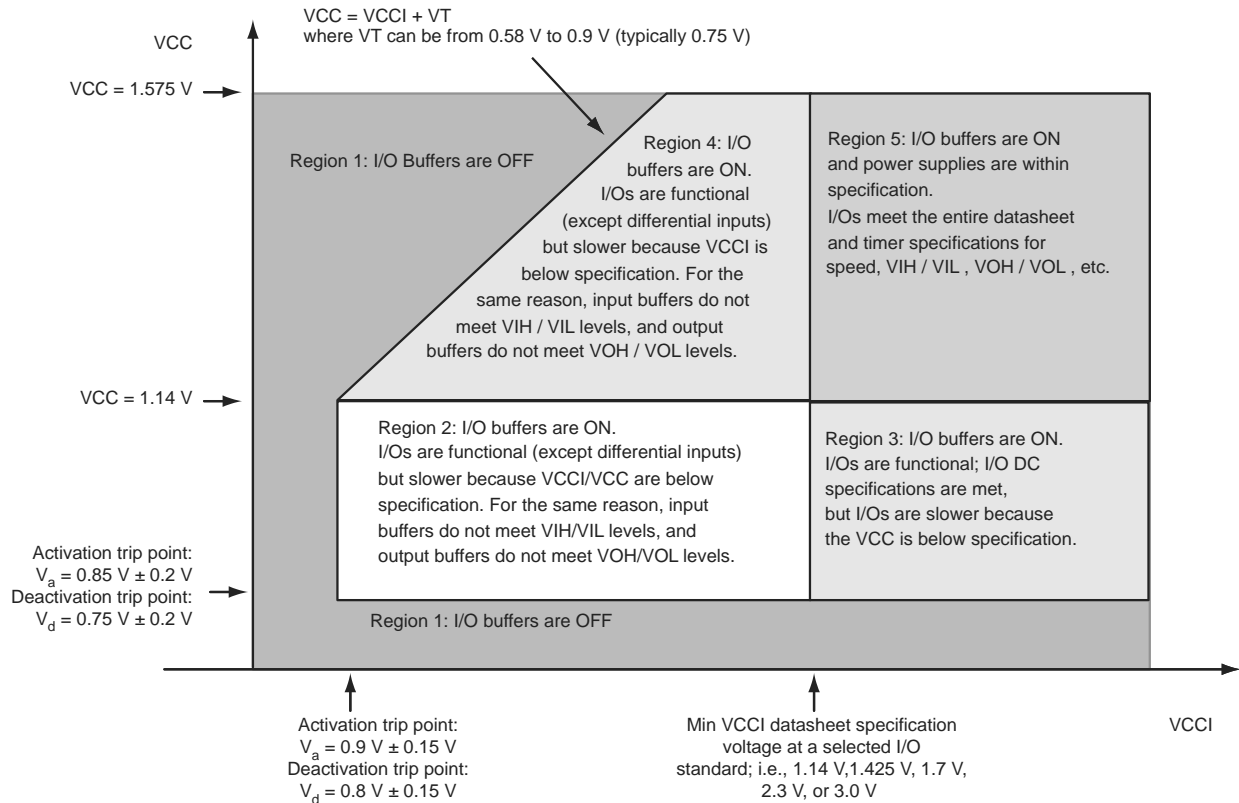

Figure 2-2 • V2 Devices – I/O State as a Function of VCCI and VCC Voltage Levels
Sophisticated power-up management circuitry is designed into every IGLOO device. These circuits ensure easy transition from the powered-off state to the powered-up state of the device. The many different supplies can power up in any sequence with minimized current spikes or surges. In addition, the I/O will be in a known state through the power-up sequence. The basic principle is shown in Figure 2-1 on page 2-4 and Figure 2-2 on page 2-5.
1. VCC and VCCI are above the minimum specified trip points (Figure 2-1 on page 2-4 and Figure 2-2 on page 2-5).